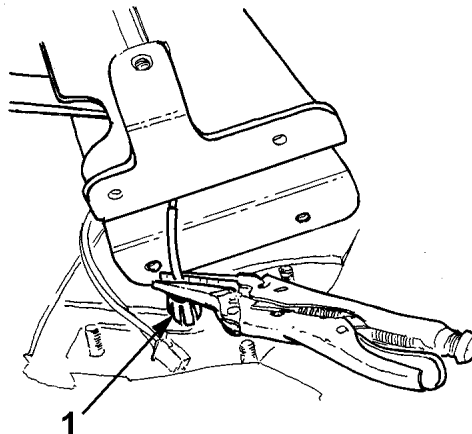

Figure 6: Securing Brake Cable
- a. To maintain tension on cable use small vice grip to hold the cable in place (Figure 6).